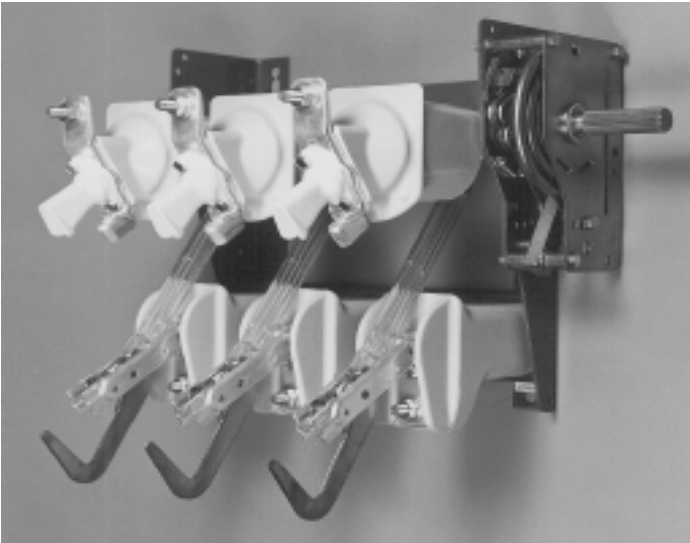

Fig. 1
2.1 Preparation of the switch for installation. Fig. 1
3.1 K-mechanism. Fig.1